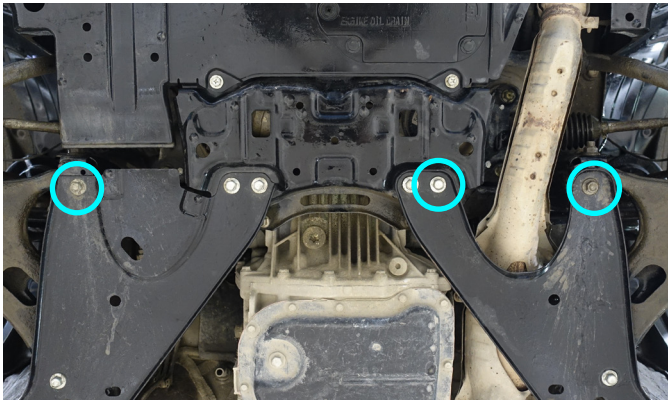

Fig. 6
6. Unscrew the factory bolts as shown in fig.6.